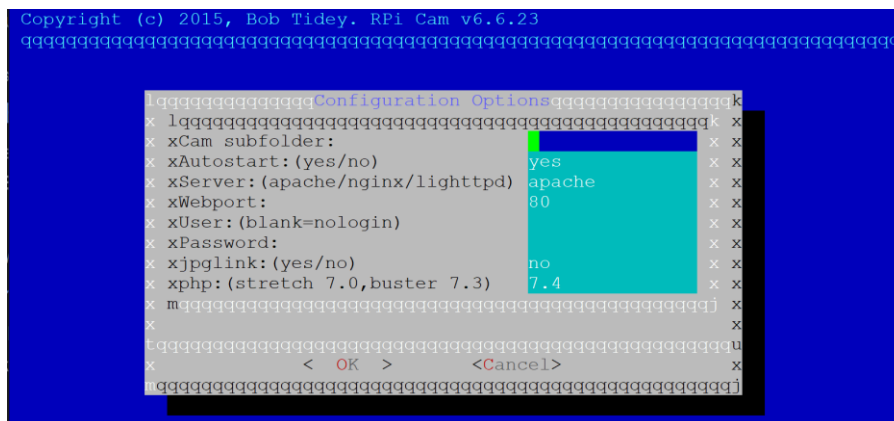

Figure 19. The Rpi-Cam-Web-Interface wizard
- The install wizard will show up after the last command (Fig. 19).